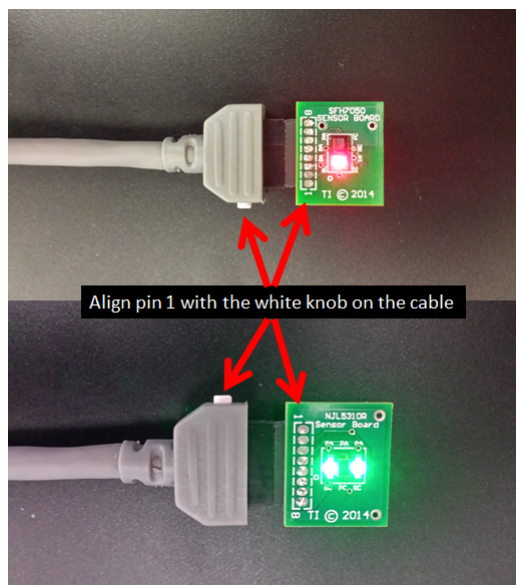

Figure 44. Sensor Board Cable Connections
- (b) Connect the sensor module to the EVM DB-9 connector with the cable provided. Make sure that the sensor is connected in the correct orientation – pin 1 should line up with the marking on the cable, as shown on Figure 44.